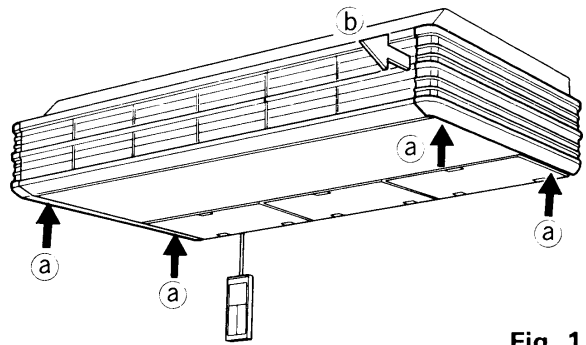

Fig. 1
- 2 ) Slide the side panels on both sides towards the front (b) of the unit in order to remove them. Fig. 1